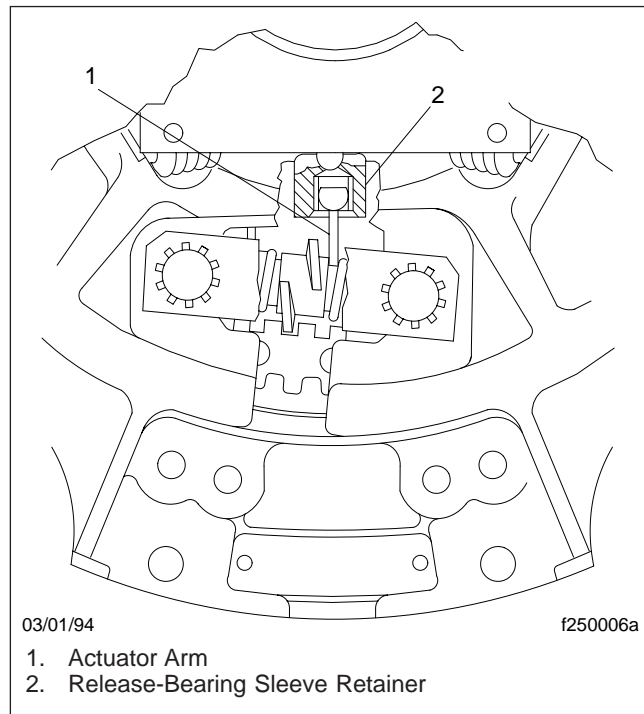

Fig. 11, Correct Actuator Arm Insertion
- A. the actuator arm is correctly inserted into the release-bearing sleeve retainer (see Fig. 11);
1. Turn the engine flywheel until the adjuster assembly is in line with the clutch inspection-cover opening. See Fig. 1 and Fig. 11.
5. Using a clutch adjusting tool in the lower teeth, turn the adjusting ring clockwise to move the release-bearing toward the transmission, or counterclockwise to move the release-bearing toward the engine. See Fig. 11.